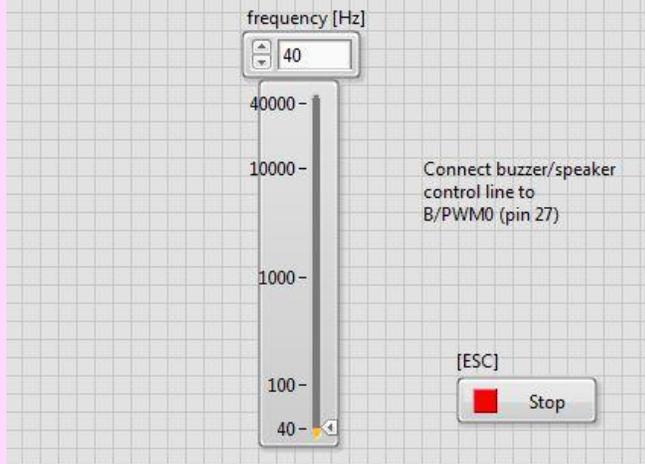

Figure 1: Buzzer Demo Front Panel
Step 2: Open the Buzzer demo folder and the Buzzer project (Buzzer demo.lvproj). Open the VI titled “Main.vi”. On the front panel should be a slider control for frequency (Figure 1). This will allow the user to vary the frequency of the digital signal sent to the buzzer, and therefore vary the frequency of the sound emitted by the buzzer.